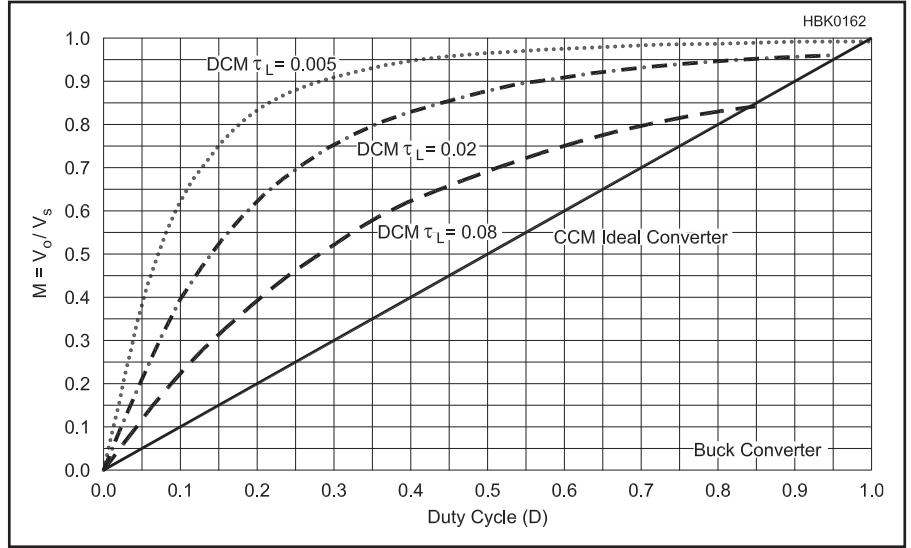

Fig 7.32 — Change in output voltage to input voltage ratio ($M=V_O/V_S$) as a function of switch duty cycle (D).
both small signal and large signal, is radically different between the two modes. **Fig 7.32** shows the relationship between the duty cycle (D) of Q1 and the ratio of the output voltage to the input voltage ($M = V_O/V_S$) as a function of τ_L in Fig 7.32:
τ_L is just a convenient way to make Fig 7.32 more general by tying together the variables L, R and f_s . Smaller values for τ_L correspond to lighter loads (larger values for R). As can be seen in Fig 7.32, for very light loads the higher values for D have little effect on the output/input voltage ratio. This is basically charging of the output capacitor (C2) to the peak value of $V_1 \approx V_S$.